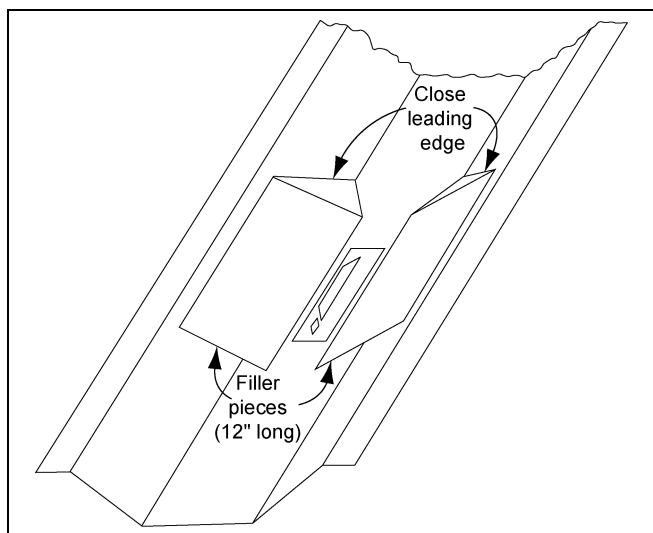

Figure 3F
4. If the trough has a flat bottom, filler pieces 12" long may be required to keep the grain closer to the sensor blade. Make sure that the leading edges are closed and welded securely. *(See Figure 3F.)*